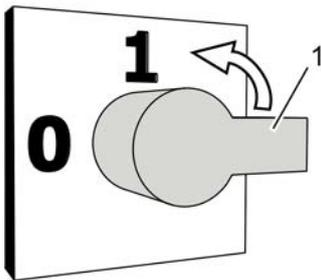

Fig. 4: Switching off the main switch
1. Switch off the power supply with the ON/OFF switch (Fig. 4/1) at the [main switch] of the control cabinet in the direction of the arrow (Fig. 4/arrow).